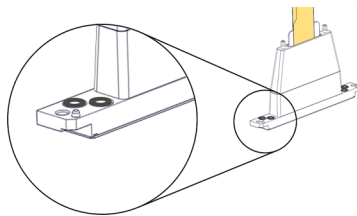

Figure 4-99 O-ring seals on the print head
17. Place four (4) O-ring seals in the replacement head (see Figure 4-99 on the previous page).